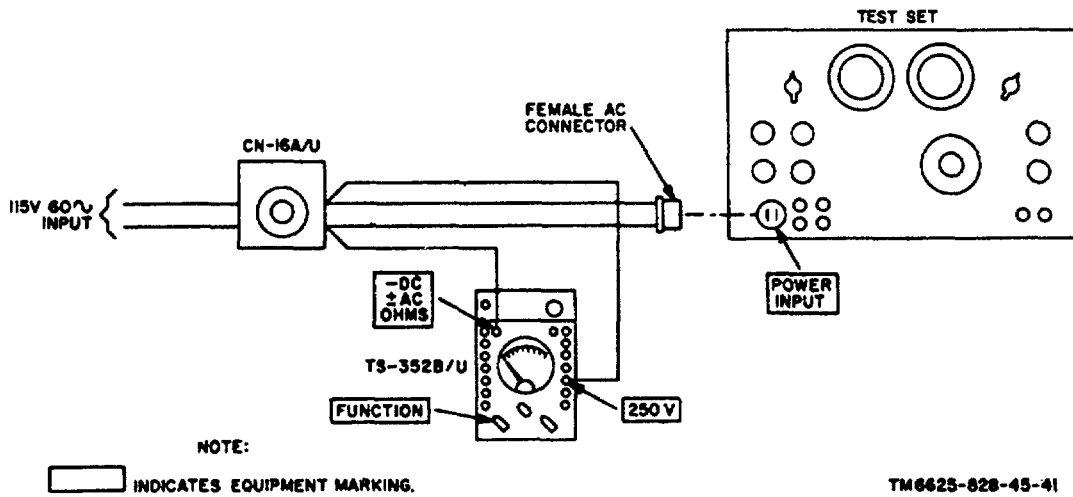

Figure 4-3. Power supply test setup.
b. *Test Connections and Conditions.* Connect the equipment as shown in figure 4-3. Test points referenced in procedure are shown in figure 2-1.